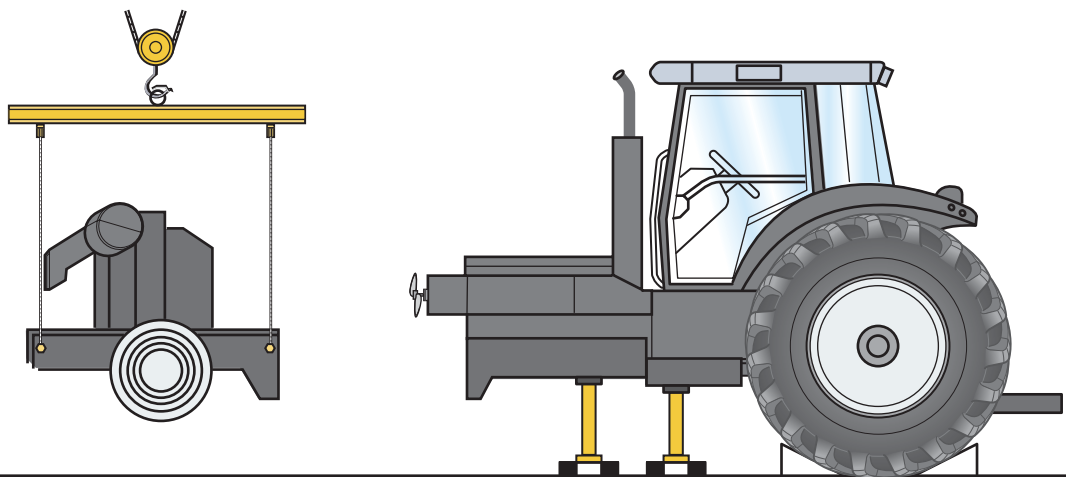

Fig. 14
29. Correctly sling and balance the front frame assembly (radiators/cooler), using the tapped holes drilled into each side of the front frame (Fig. 14).